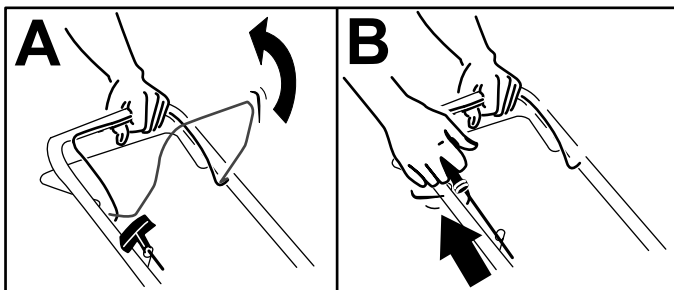

Figure 13
1. Hold the blade-control bar against the handle (A of Figure 13).
2. Pull the recoil-start handle lightly until you feel resistance, then pull it sharply, and allow it to return to the rope guide on the handle slowly (B of Figure 13)